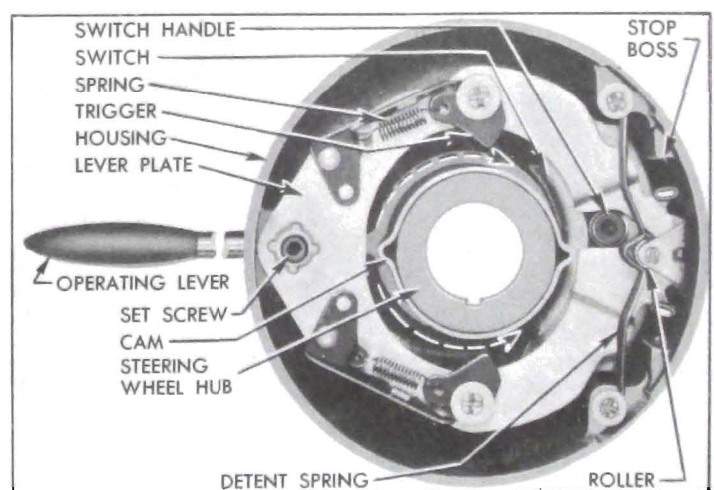

Figure 10-79—Direction Signal Switch in Off Position
The operating lever is locked by a set screw into a stub shaft anchored to a plate in switch housing which operates the switch. The stub shaft fits into a recess in the housing to provide a bearing or pivot point for the lever and plate. A slot in right side of the lever plate engages the bakelite handle of the switch which is mounted in the housing below the lever plate. A detent spring mounted in the housing bears against a roller mounted on the lever plate to hold the plate in whatever position it may be set. Bosses in the housing provide stops for the plate when set for either turn. See figure 10-79.
lever plate. The cam is a round steel stamping having two projecting ribs, and it is rigidly mounted on the wheel hub. When the switch is in the "off" position, the lever plate is centered around the cam so that the ribs of cam cannot contact either trigger when steering wheel is turned. See figure 10-79.
2. Use a $\frac{1}{8}$ " hex (Allen) wrench to loosen the operating lever set screw and remove lever. See figure 10-79. *NOTE: If only the lever requires replacement remove horn button only, then insert wrench through a puller hole in steering wheel to loosen the set screw.*